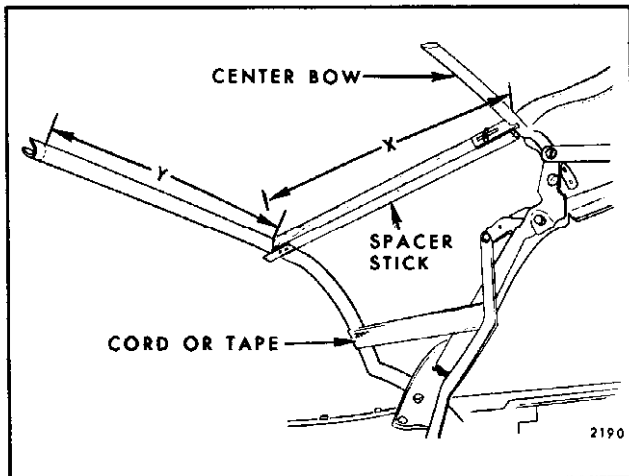

Fig. 13-10 - Spacer Stick Installation
24. Lock top to windshield header. Install radius end of each adjustable spacer stick to fit against center roof bow. Install opposite end of spacer stick so that metal plate fits under rear roof bow. Spacer sticks should be installed along inboard edge of side stay pad (Fig. 13-10).
NOTE: The approximate dimension for location of spacer sticks, measuring outboard from centerline dimple of rear roof bow is approximately 17" for all body style (See Dimension "Y" in Fig. 13-10).
26. Temporarily tie or tape rear bow to rear side roof rails. (See Fig. 13-10.) Detach nylon webbing, side stay pads and back curtain assembly from rear bow.
1. If new top is being installed but it was impossible to perform step 24 of removal procedure, pre-set spacer sticks to shortest length and install between center and rear roof bow (Fig. 13-10). Adjust sticks so that dimension "X" in Figure 13-10 (measured along spacer stick from front upper rolled edge of rear roof bow to center of center bow) is 16 1/16" on "B & C" Styles, 13 3/16" on "F" Styles and 15 1/4" on "A" Styles. Tie or tape rear bow to rear side roof rails.